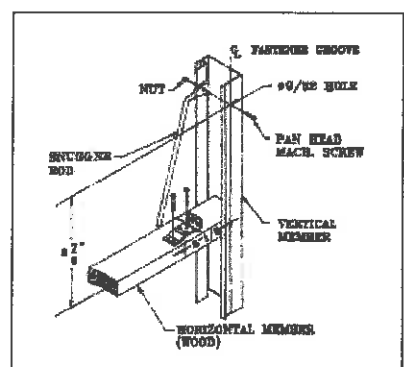

FIGURE 17
Select a horizontal door member that is at a convenient height and drill (1) $9/32"$ diameter hole in the vertical door member. Refer to **figure 17** for hole location.
Slip rod support on straight end of snigger rod and properly position assembly to determine proper location of rod shank. Fasten rod support with (2) ring nails as shown. Slip the large link on the end of the chain over the snigger rod and insert snigger rod into the rod support. Secure the opposite end to vertical member using (1) $1/4"$ fastener and nut as shown. **See figure 17.**